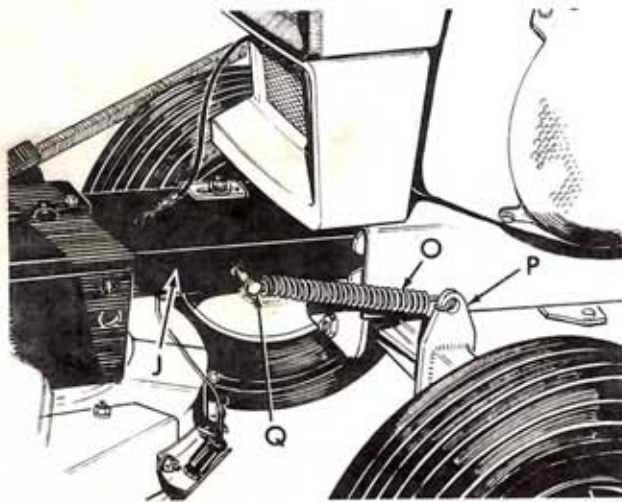
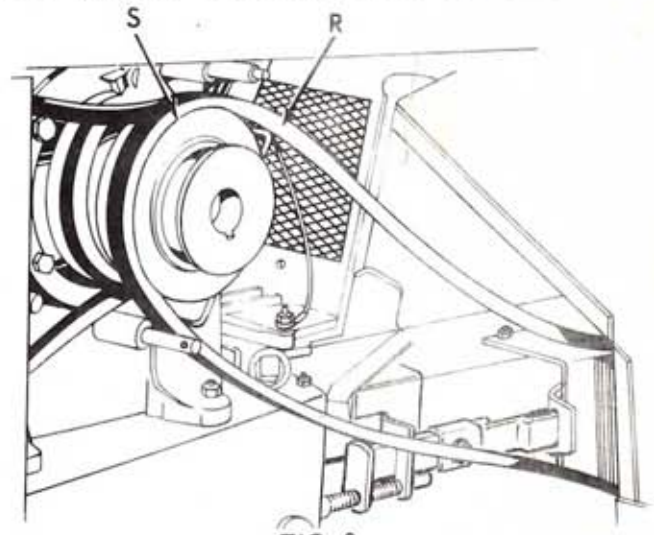
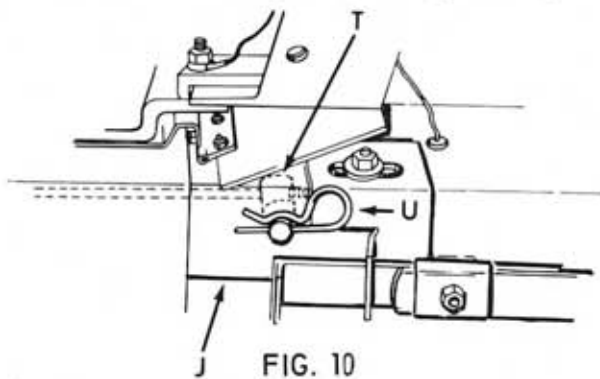
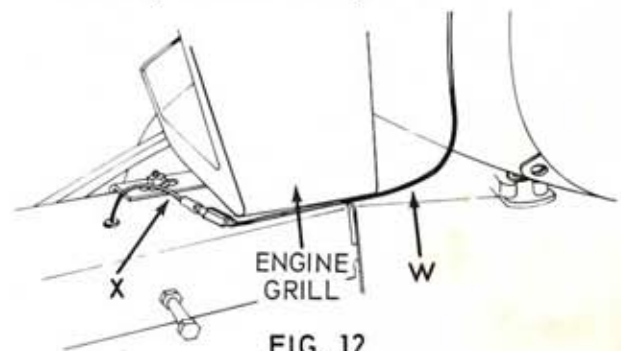

FIG. 8
FIG. 9
FIG. 10
FIG. 12
5. Refer to Fig. 8. Hook spring (O) (shipped in plastic bag) from hole in L.H. side of shredder mounting channel (J). A pair of pliers or a heavy wire loop will be required to attach spring to bolt (Q).
6. Refer to Fig. 9. With tractor belt tensing lever in "Out" position, place shredder drive belt (R) in largest groove of engine pulley (S) (second groove from outside.)
8. Refer to Fig. 10. Attach front end of belt tightener link 6499H, adjusting pin (T) in hole on R.H. side of mounting channel (J). Secure with retainer spring (U).
2. Lay wire (W) on top of engine near fan housing and down in front of engine, under grill and connect to wire (X) protruding from top shredder mounting channel. See Figure 12.
Disconnect spring (Fig. 8, page 5), shorting wire at connector (Fig. 12, page 6), belt tightener link (Fig. 10, page 6), and belt at engine pulley (Fig. 9, page 5). Reverse step 4 page 5, steps 2 and 1 page 4.